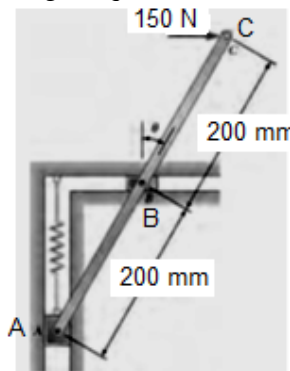

Fig. 5
- Q. No. 10 The system of freely pivoted light bar (Fig. 5), end mass m , and spring of stiffness k is shown in its equilibrium configuration. The parameter n is a fraction which lies in the range $0 < n < 1$. Show that the system is stable for all values of n in the permitted range.